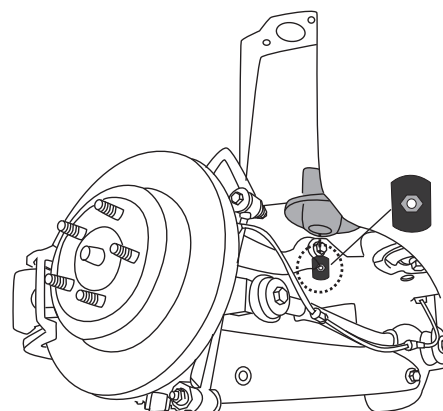

fig. 3
1. Insert the clamp plate (M) into upper spring perch with the nut facing upward (fig. 3).